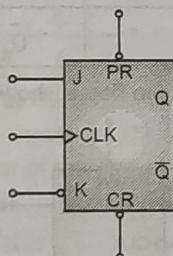

Fig. 3.22 : Logic symbol of MS JK flip flop
- The logic symbol of master slave JK flip flop is shown in Fig. 3.22.